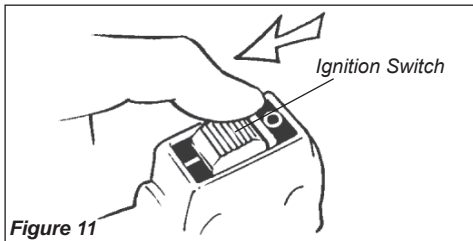

Figure 11
1. Slide the ignition switch to the "I" position. See Figure 11.